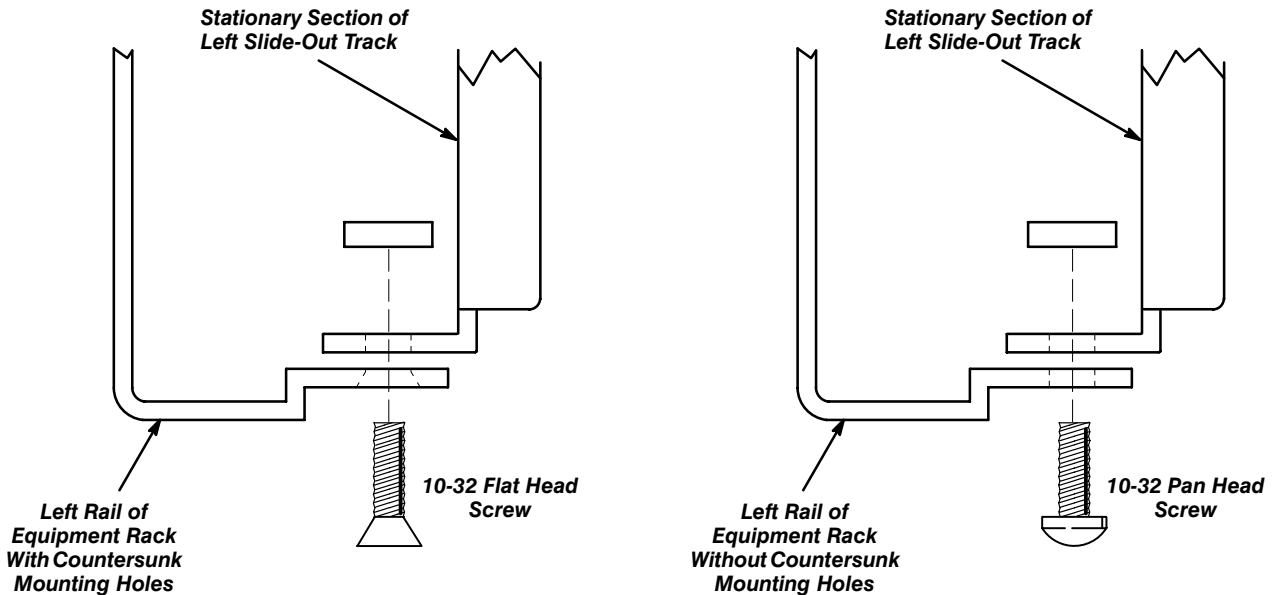

Figure 20: Attaching the Slide-Out Tracks Behind the Equipment Rack Rails
- b. To mount the slide-out tracks behind the equipment rack rails, use one of the following methods and refer to Figure 20.